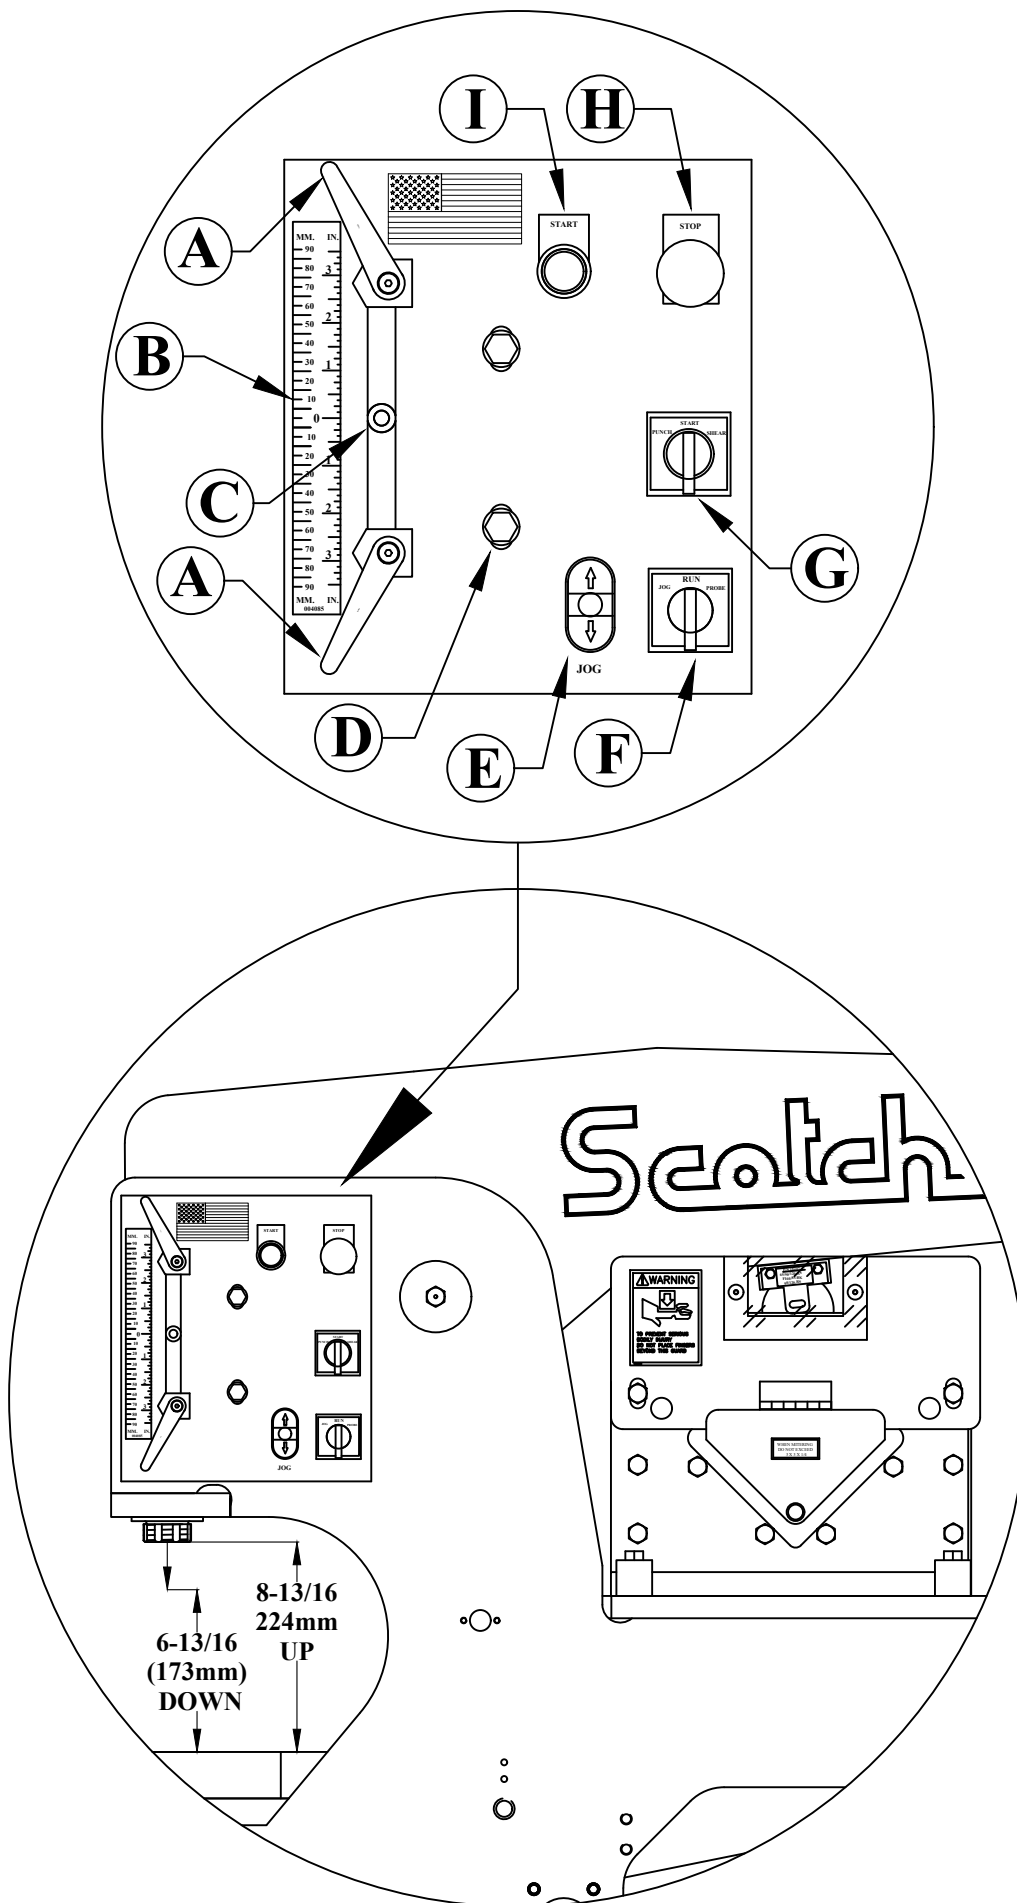

FIGURE 5
A check of the machine's stroke setting is made at the punch station; SEE FIGURE 5 ON THE FOLLOWING PAGE. Set the stroke control handles (A) out to their farthest position. Turn the selector switch (G) to the START position and power the machine. Then place this switch in the SHEAR position. Measure the distance from the top of the punch bolster to the bottom of the punch ram. The distance should be 8-13/16 inches (224mm). Turn the selector switch to the PUNCH position and measure the distance. The distance should be 6-13/16 inches (173mm).
- 1. Loosen the two mounting plate screws (D) that hold the mounting plate to the machine. SEE FIGURE 5 ON THE FOLLOWING PAGE.**